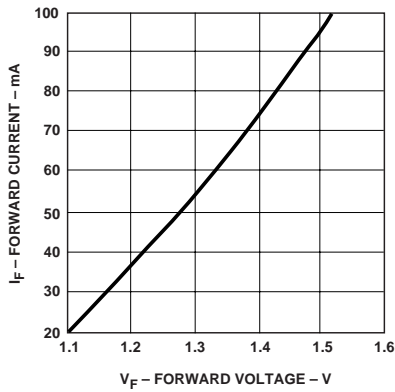

Figure 3. Typical forward voltage and current characteristics.
7. Optical rise and fall times are measured from 10% to 90% with 62.5/125  $\mu\text{m}$  fiber. LED response time with recommended test circuit (Figure 3) at 25 MHz, 50% duty cycle.